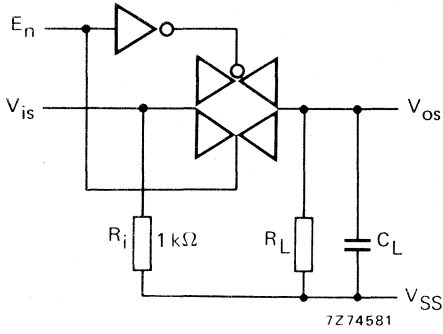

Fig. 2
1.  $R_L = 10\text{ k}\Omega$  to  $V_{SS}$ ;  $C_L = 50\text{ pF}$  to  $V_{SS}$ ;  $E_n$  at  $V_{DD}$ ;  $V_{is}$  is  $V_{DD}$  (square-wave); see Fig. 2.
$V_{is}$  at  $V_{SS}$  and  $R_L$  at  $V_{DD}$  for  $tp_{LZ}$  and  $tp_{ZL}$ ; see Fig. 2.
5.  $R_L = 10\text{ k}\Omega$  to  $V_{SS}$ ;  $C_L = 15\text{ pF}$  to  $V_{SS}$ ;  $E_n$  is  $V_{DD}$  (square-wave); crosstalk is  $V_{os}$  (peak value); see Fig. 2.